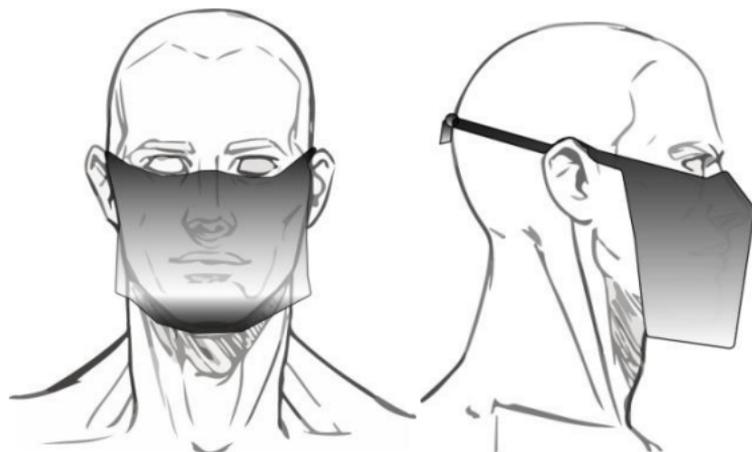

Fig. 4
- d. Pass the two top fasteners (n ° 1 and n ° 2) over the ears and tie them on the back of the head (see Fig. 4)
In this case, should the mask be cut down, only the configuration of wearing with two fasteners is possible (see §4.2 et Fig. 4).